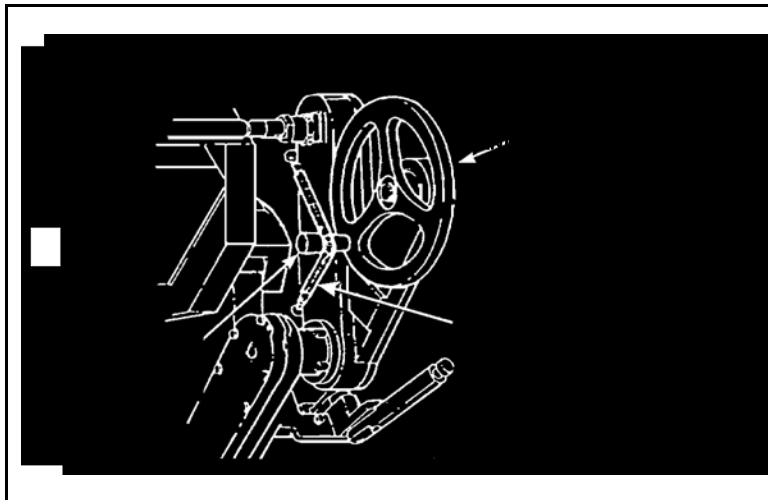

Figure 5. Gun elevation handwheel.
- d. Remove the spring from the handle of the gun elevation handwheel (Figure 5).